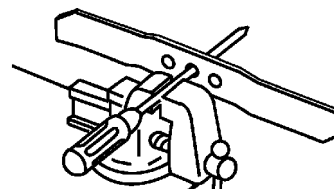

Figure 24
- Check the balance of the blade by placing the center hole of the blade over a nail or screwdriver shank clamped horizontally in a vise (Fig. 24).